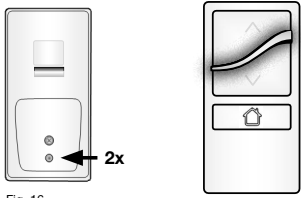

Fig. 16
A. Starting with the primary control, press and release the program button on the back side of the current remote twice in rapid succession (two taps). The LED light will alternately flash amber and green to identify inclusion mode. (Fig. 16)